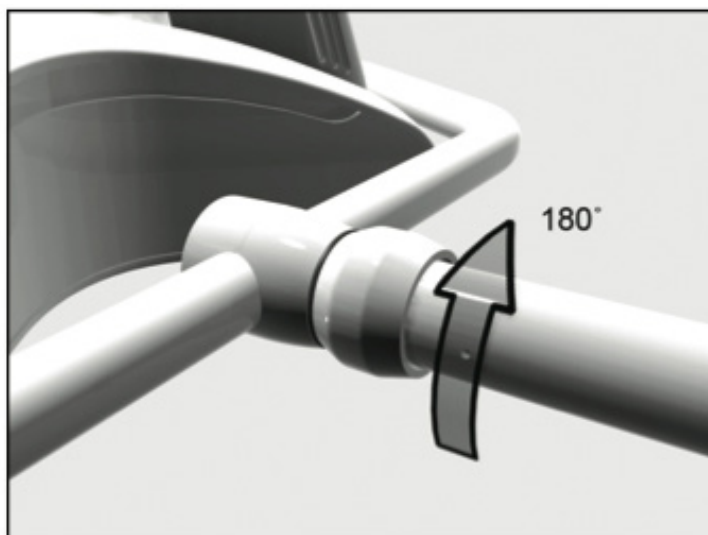

Figure 5
8. Rotate the collar (c) 180 degrees as shown in figure 5.